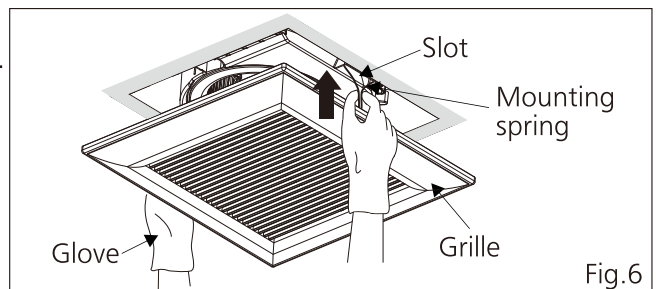

Fig.6
- Insert the mounting springs into slots as shown and mount grille to fan body. (Fig.6)